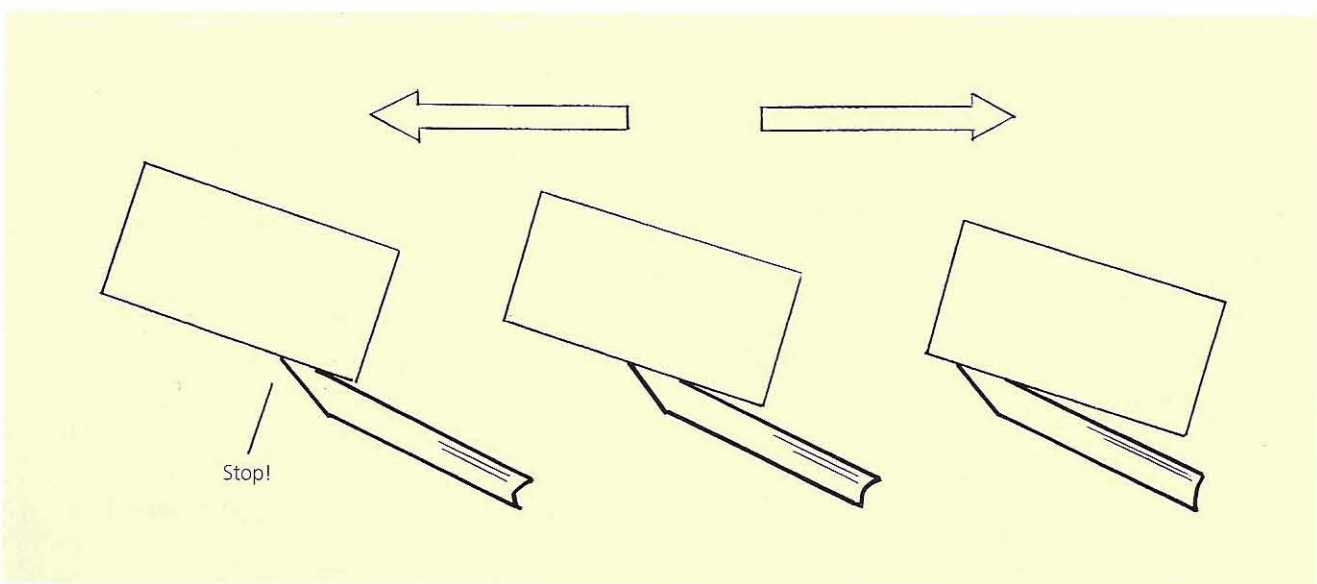

Fig 12.19 When pushing the slipstone forward be careful not to come off the edge – leave something like one third in-cannel
- 4 Do not let more than half to two thirds of the slipstone project from the blade. To put this another way, always keep a substantial amount of the slipstone in-cannel (Fig 12.19). This means working in short, rapid strokes. If the slipstone projects more than this, there is a danger of its coming off the blade completely.